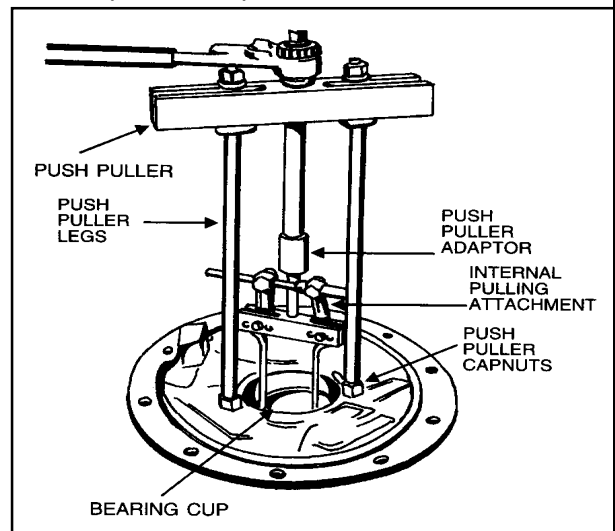

Figure 14
4. If it is necessary to install a new bearing cup in the left or right-hand axle housing, use push puller, push puller legs, push puller adaptor and external/internal pulling attachment to remove the cup, Figure 14. It will be necessary to remove